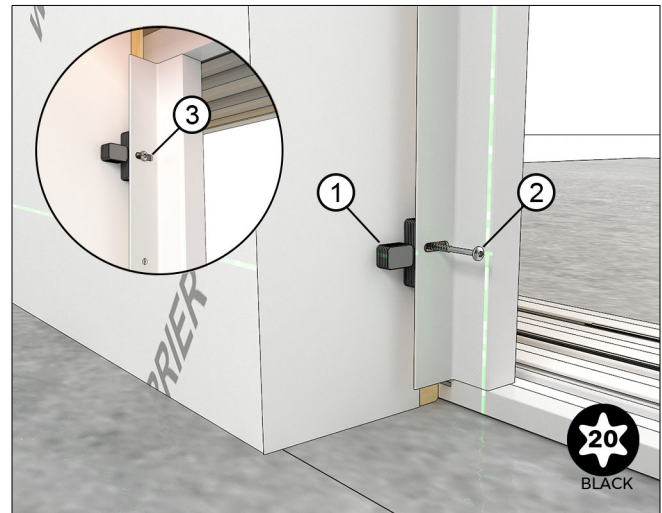

Figure 67 Attach interlock plumb to framing.
4. Shim and fasten the pocket interlock to the edge of the exterior framing and the inside surface of the exterior framing with #10 x 3" (76) installation screws. Make sure the interlock is plumb and not twisted in the opening. See Figure 67.